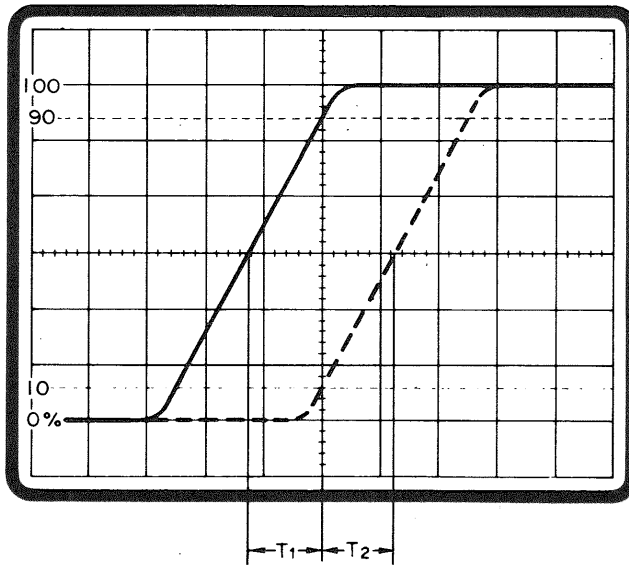

Fig. 15
1. With a pulse signal applied to the input terminal, adjust VOLTS/DIV (4) [9] and VARIABLE (5) [10] so that the pulse amplitude is set to the 0 and 100% scales (Fig. 15).
2. Turn SWEEP TIME/DIV (25) to magnify the rising portion of the waveform as large as possible [VARIABLE (26) should be set to CAL position].
3. Adjust ◀▶ POSITION (24) to set the waveforms at 10% and 90% to the vertical center scale respectively, then measure T1 and T2 using the horizontal center scale. The pulse rising (falling) time is $T1 + T2$.